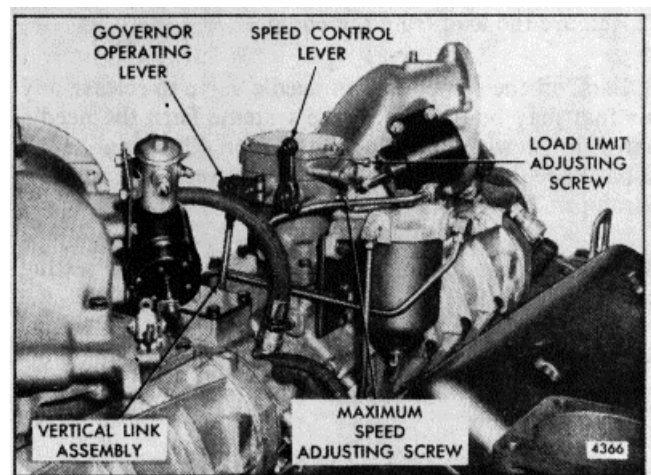
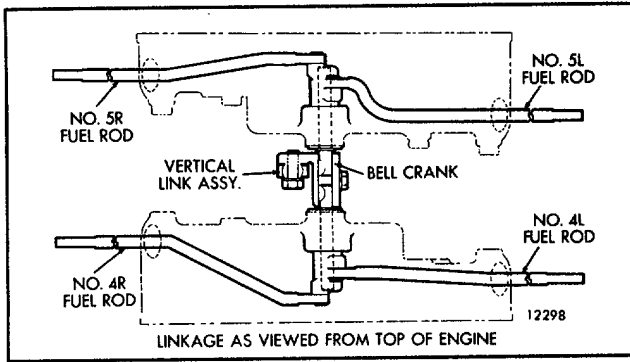

Fig. 11. - Hydraulic Governor Mounting
Fig. 12. - Governor to Injector Rack Control Linkage
The governor on the 12V-92 and 16V-92 engine is mounted on and driven from the front end of the rear blower (Fig. 11). The governor-to-injector control tube linkage is shown in Fig. 12.
3. Disconnect the vertical link assembly from the governor operating lever and the bell crank (Fig. 12).